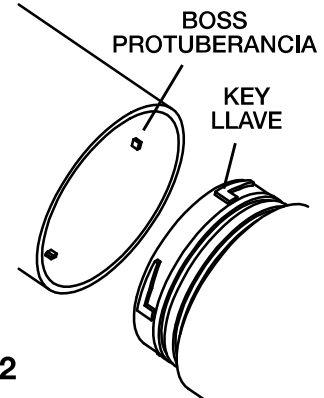

FIG. 2
- 8) Install cowl onto accent light housing. Cowl can be adjusted to eight different orientations on the housing. Align boss inside cowl with key on fixture housing (see FIG. 2), slide cowl past o-rings and twist clockwise one
- 8) Install cowl onto accent light housing. Cowl can be adjusted to eight different orientations on the housing. Align boss inside cowl with key on fixture housing (see FIG. 2.), slide cowl past o-rings and twist clockwise one quarter turn.